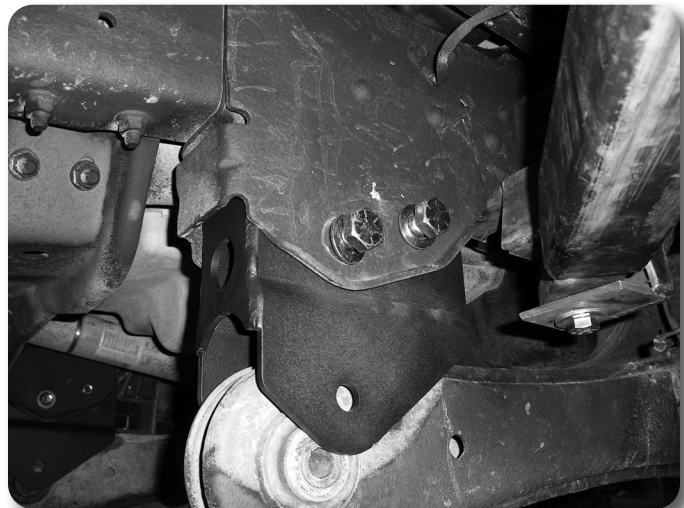

Figure 12
26. Install the new provided radius arm bracket into the factory frame bracket. Align the hole in the bracket with the factory mount holes and install 3/4" x 5" bolts, nuts and washers in the holes. Figure 12 With both bolts installed, torque hardware to 250 ft-lbs.